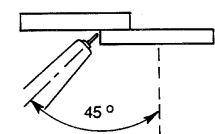

Figure 2.8
3. The electrode should be positioned at a  $45^\circ$  work angle and a  $10^\circ$  to  $15^\circ$  push angle to perform the weld. (See Figures 2.8 and 2.9.)